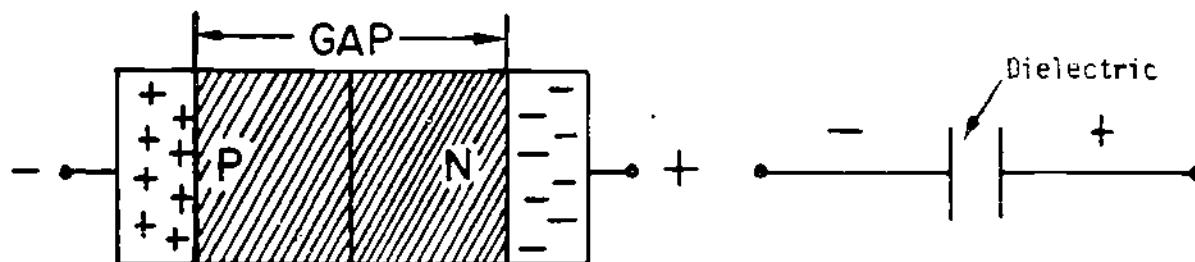

Figure 20
- (22) A reverse bias voltage applied to a varactor causes an insulation gap to form between the charged particles in the P and N materials. The gap has a reduced number of current carrying particles. Therefore, the gap can be compared to the dielectric of a capacitor as shown in Figure 20.